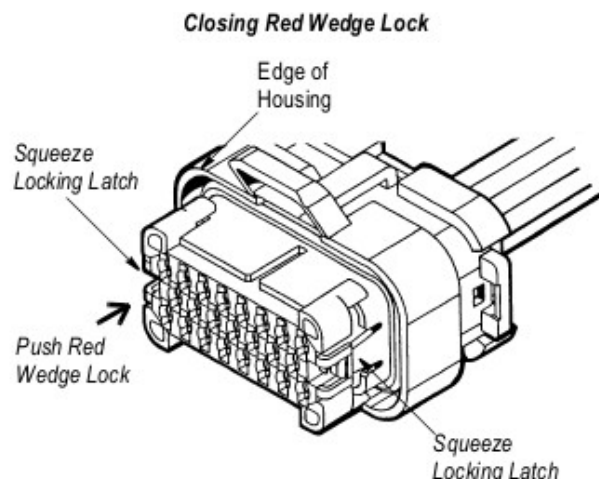

Figure 3
5. After all contacts have been inserted, close the red wedge lock by simultaneously squeezing the locking latches inward, and pushing the red wedge lock into the housing until it is flush with the edge of the housing. See Figure 3.